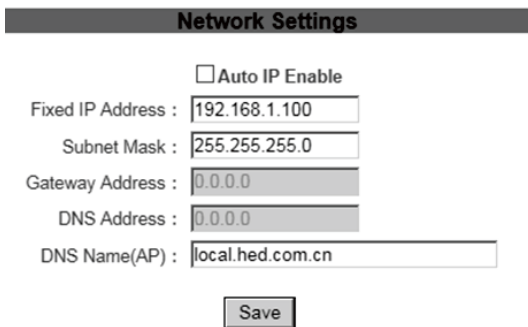

Figure16
4. In “Network Settings” column, to set up IP automatically (Mark check before the “Auto IP Enable”) or by set up IP, “Fixed IP Address” enter IP address; Subnet Mask” enter subnet mask; the rest category remain default, click “Save” button to save the setting (Figure 16).